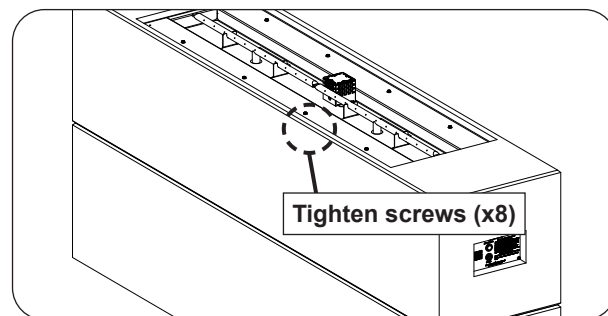

Fig. 27-3 Install burner
2. Use a $\frac{5}{16}$ " nut driver to fasten the burner to the base (see Fig. 27-3).